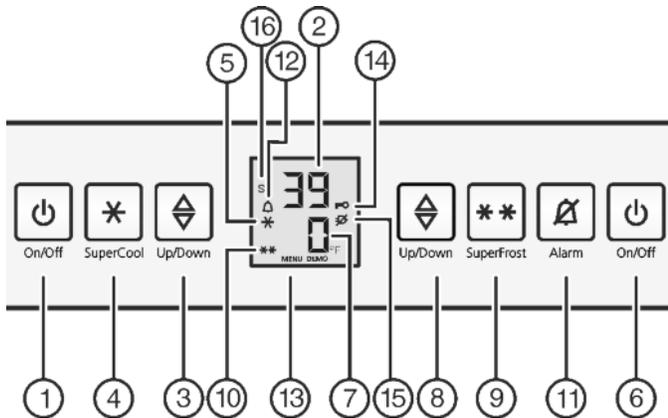

Fig. 3
- ▶ Press the freezer compartment On/Off button Fig. 3 (6).
- ▶ Press the refrigerator compartment On/Off button Fig. 3 (1).
- ▶ Activate setting mode: Press SuperFrost button Fig. 3 (9) for about 5 seconds.
- ▷ The Menu symbol Fig. 3 (13) lights up.
- ▶ Use the Set freezer compartment button Fig. 3 (8) to select °.
- ▶ To confirm: Briefly press SuperFrost button Fig. 3 (9).
- ▶ Select °F oder °C with the Freezer compartment set button Fig. 3 (8).
- ▶ To confirm: Briefly press SuperFrost button *Fig. 3 (9)*.
- ▶ To exit setting mode: Press Freezer compartment On/Off button *Fig. 3 (6)*.
- ▶ To activate setting mode: Press and hold the SuperFrost button *Fig. 3 (9)* for approx. 5 seconds.
- ▷ In the display, the Menu Symbol *Fig. 3 (13)* is displayed.
- ▶ Use the Set freezer compartment button *Fig. 3 (8)* to select **c**.
- ▶ Confirm briefly by pressing the SuperFrost button *Fig. 3 (9)*.
- ▷ The Child Safety symbol *Fig. 3 (14)* lights up on the display.
- ▶ Press the freezer compartment On/Off button *Fig. 3 (6)* briefly.
- ▶ Press Alarm button *Fig. 3 (11)*.